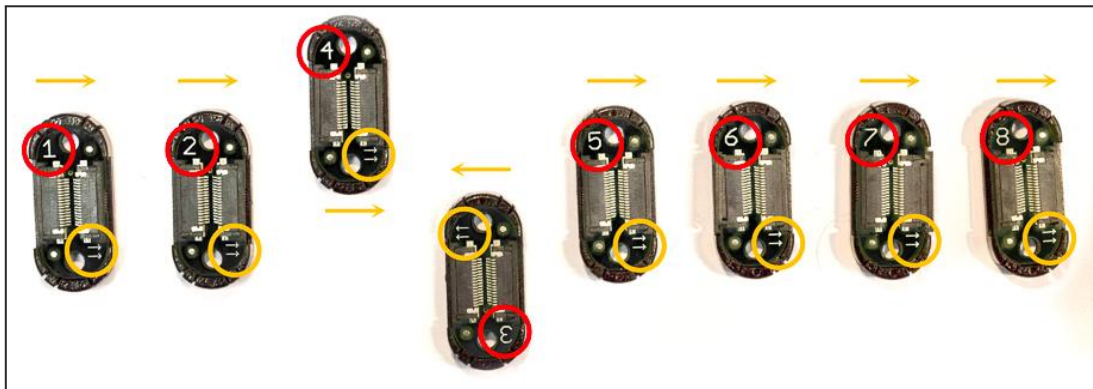

Figure 6. Incorrect sensor order and direction
**i** TeraRanger Multiflex PCB will not stream distance data if any of the sensor units are connected in the wrong order or direction. See example in Figure 6.